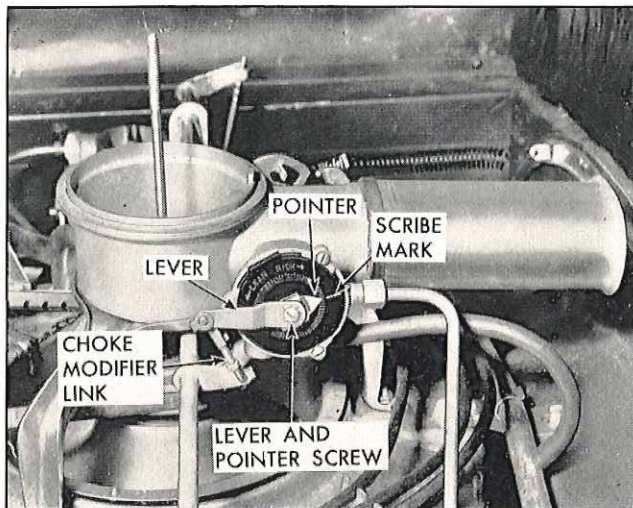

Fig. 9—Automatic Choke Adjustment
4. Rotate pointer clockwise to align it with the scribed line (fig. 9).